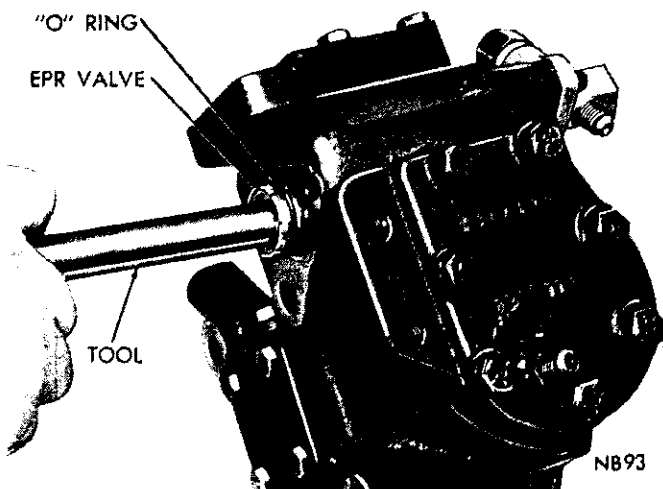

Fig. 6—Removing The EPR Valve
(1) Remove the two "EPR" Valve suction line fitting bolts, the fitting which also contains the compressor suction screen, spring, and the gasket.
(2) Remove the "EPR" Valve and "O" ring from the compressor using Tool C-3822, by rotating the valve counterclockwise slightly (Fig. 6).